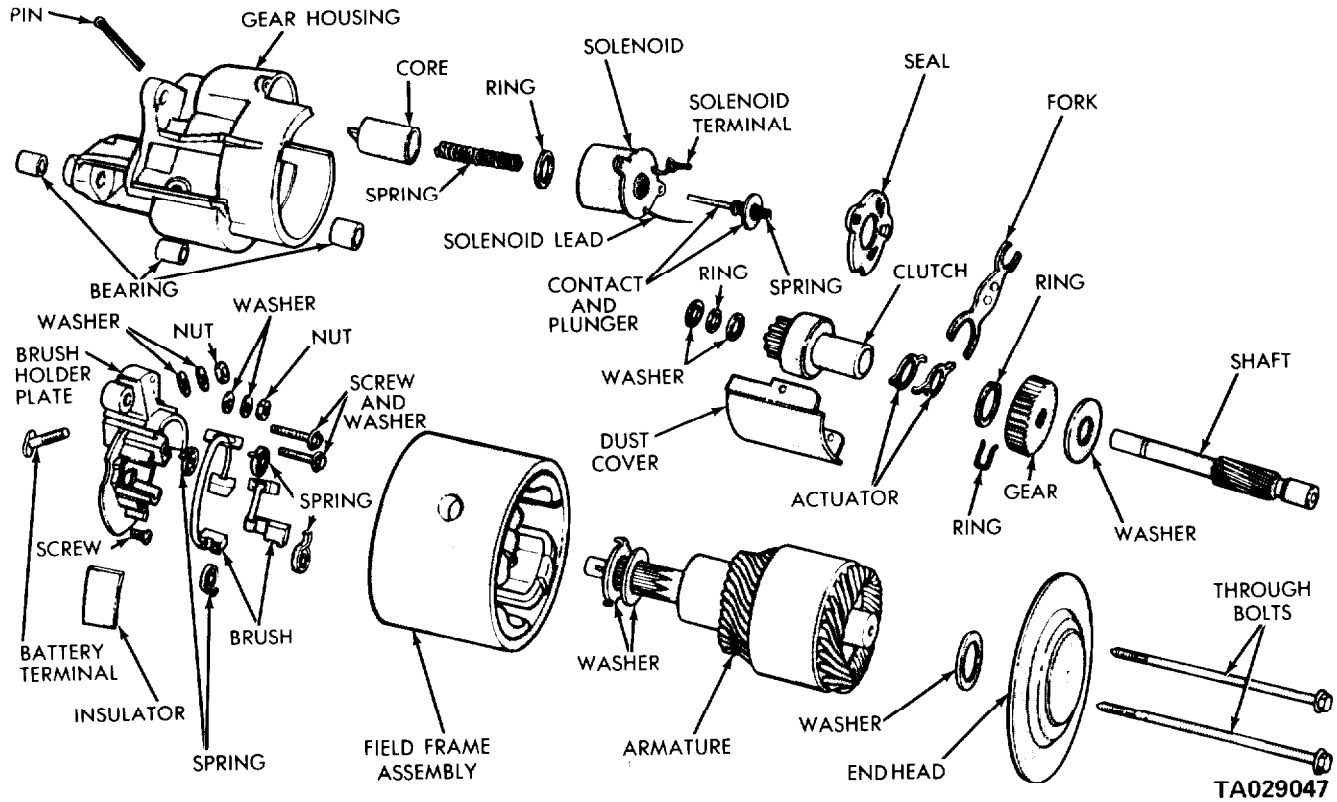

Figure 15-20. Starter.
a. General. Refer to figure 15-20.